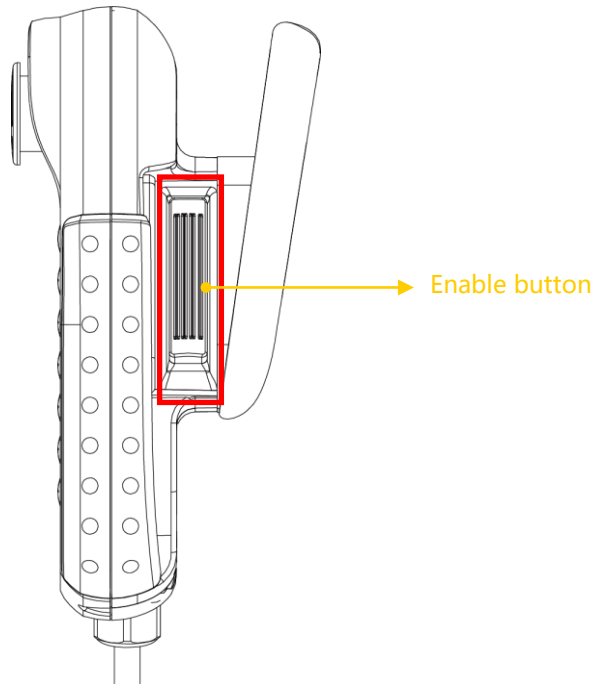

Figure 7-1 Teach pendant enable button
Step 7. On the motion instruction interface as shown in Figure 7-1, click <Insert > to complete the insertion of the motion instruction.